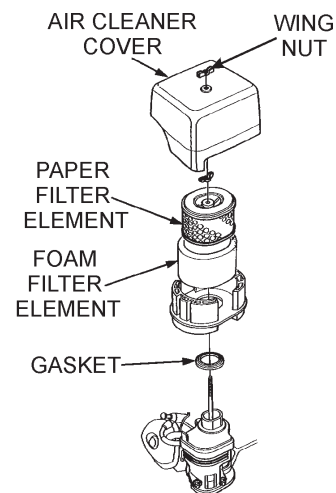

Figure 22. Engine Air Cleaner
1. Remove the air cleaner cover and foam filter element as shown in Figure 22.
2. Tap the paper filter element (Figure 22) several times on a hard surface to remove dirt, or blow compressed air [not exceeding 30 psi (207 kPa, 2.1 kgf/cm2)] through the filter element from the air cleaner case side. **NEVER** brush off dirt. Brushing will force dirt into the fibers. Replace the paper filter element if it is excessively dirty.